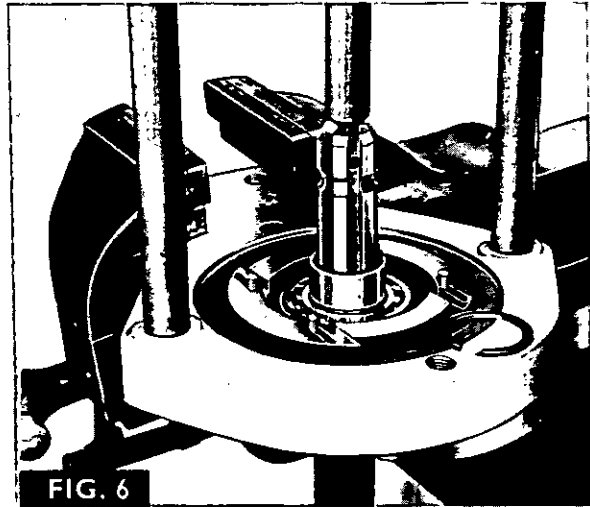

FIG. 6
4. Press off the bearing using multi-purpose bearing remover MF 200-25 as shown in Figure 6.